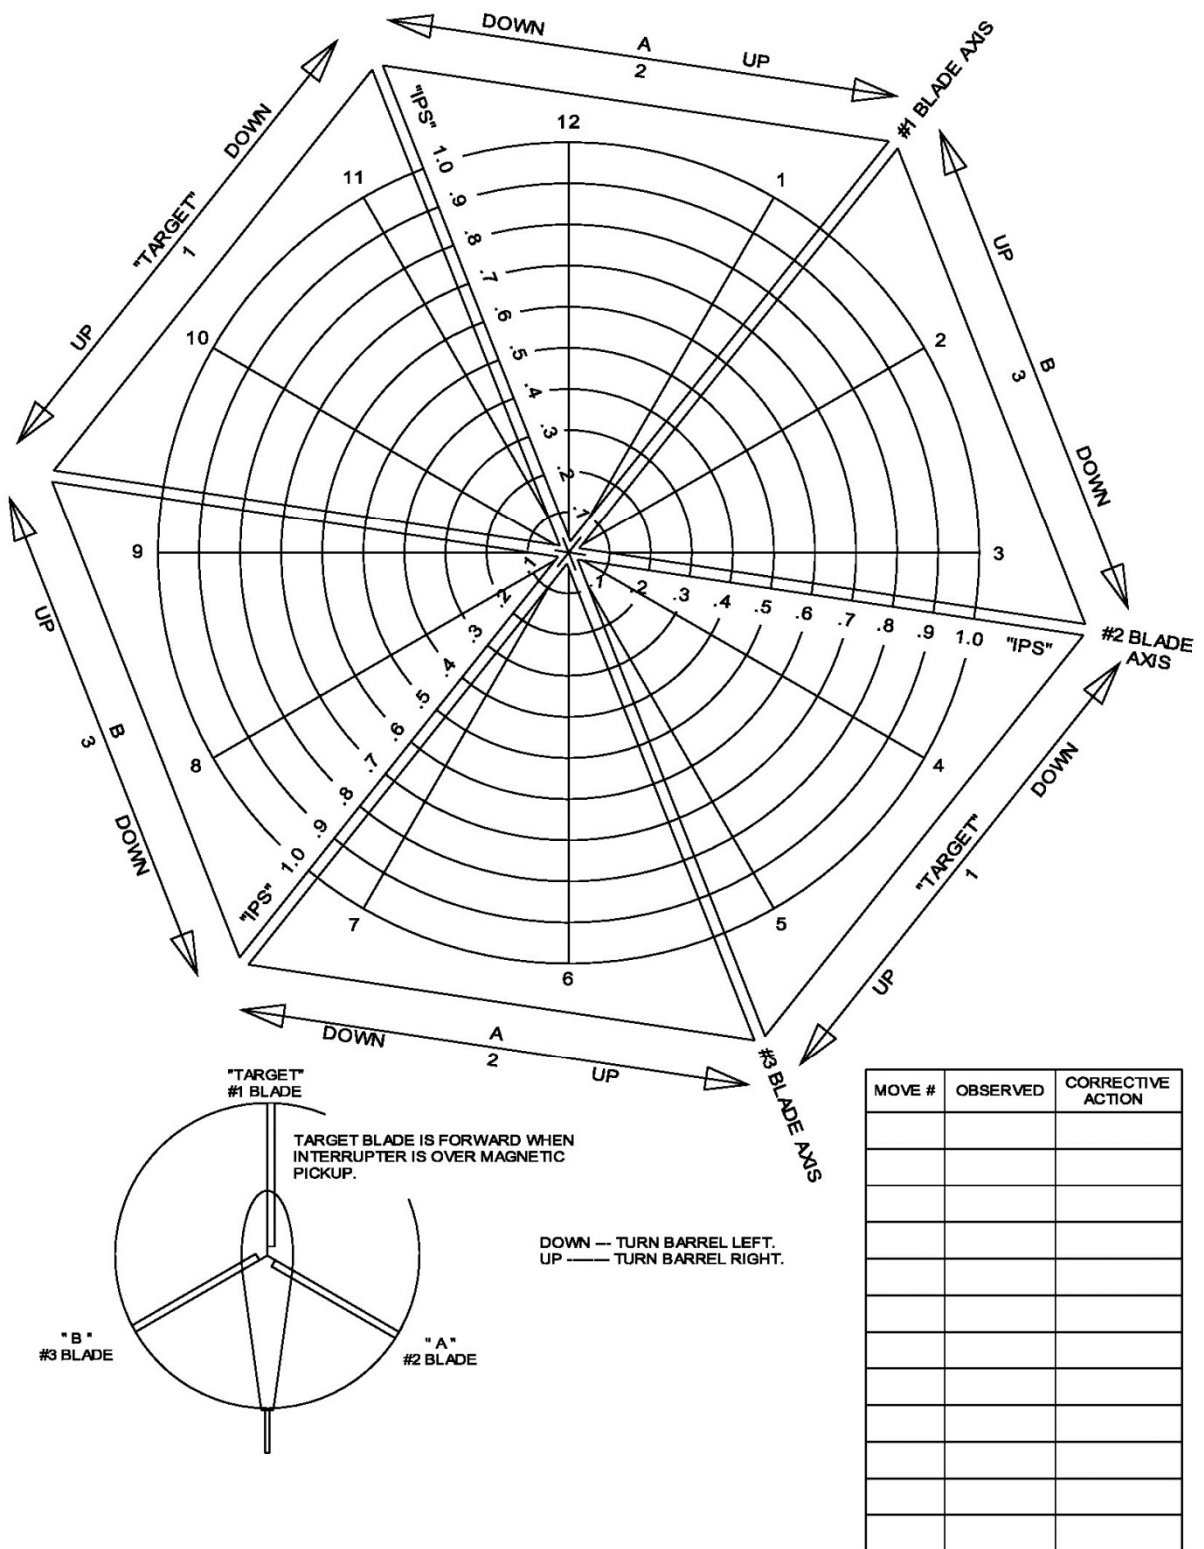

Figure 12-4. Vertical Accelerometer Channel "B" Polar Chart
- Record the ips reading and the clock angle. Using the Vertical Velocimeter Channel B Polar Chart (Figure 12-4), adjust track for ips readings of less than .2 using pitch links.
1. Using pitch links, re-track the hover to less than .2 ips using Figure 12-4 (vertical polar chart). If the above procedure is followed, once the hover has been tracked smooth, the cyclic feedback should not reoccur.
- b. Using the same polar chart (Figure 12-4) adjust the forward flight to less than .2 ips with the inboard tabs.